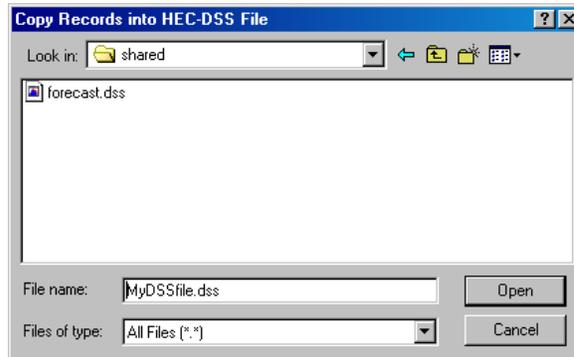

Figure E.17 HEC-DssVue Copy Records into HEC-DSS File Dialog Box
1. Select the record(s) either by double-clicking on it or by highlighting it then clicking the **Select** button. From the **Utilities** menu, select **Copy Records**. The **Copy Records into HEC-DSS File** dialog box (Figure E.17) will open.